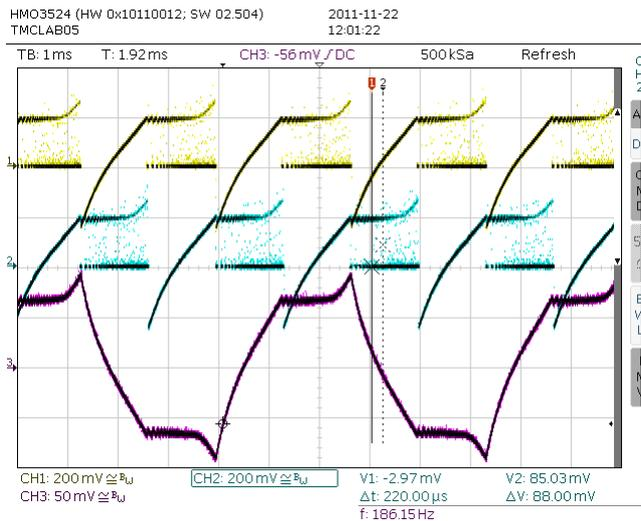

Figure 2.6 Motor operation in fullstep with slow decay only (CHM=1)
3. As fullstepping does not require high precision chopper operation, you can try to switch to slow decay only chopper – compare Figure 2.6, e.g. by setting *vhighcm* (for TMC5XXX drivers).